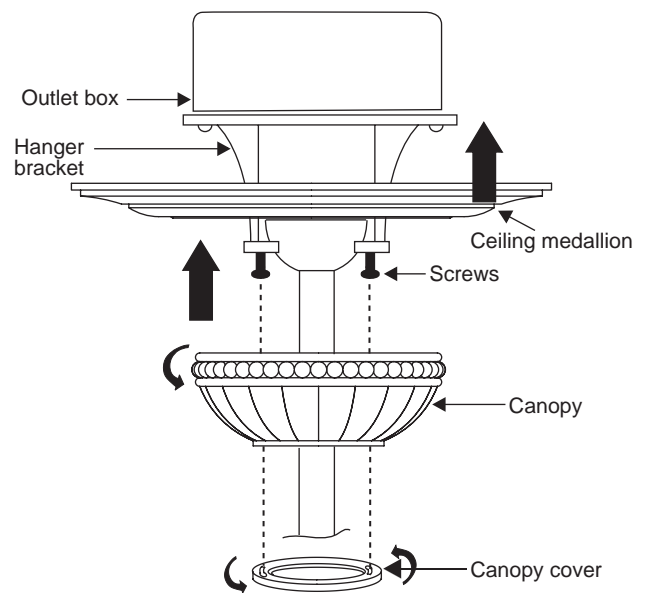

Figure 13
Step 2. Locate the ceiling medallion to the ceiling, use your one hand to hold the ceiling medallion at this moment, place the canopy up to the ceiling medallion and loose your one hand that hold the ceiling medallion originally, and secure the canopy with the two screws on hanger bracket. Rotate canopy clockwise, next, while holding the canopy with one hand, slide the canopy cover over the screws and rotate clockwise until tight. **Note:** adjust the canopy screws as necessary until the canopy and canopy cover are snug. (Fig.13)